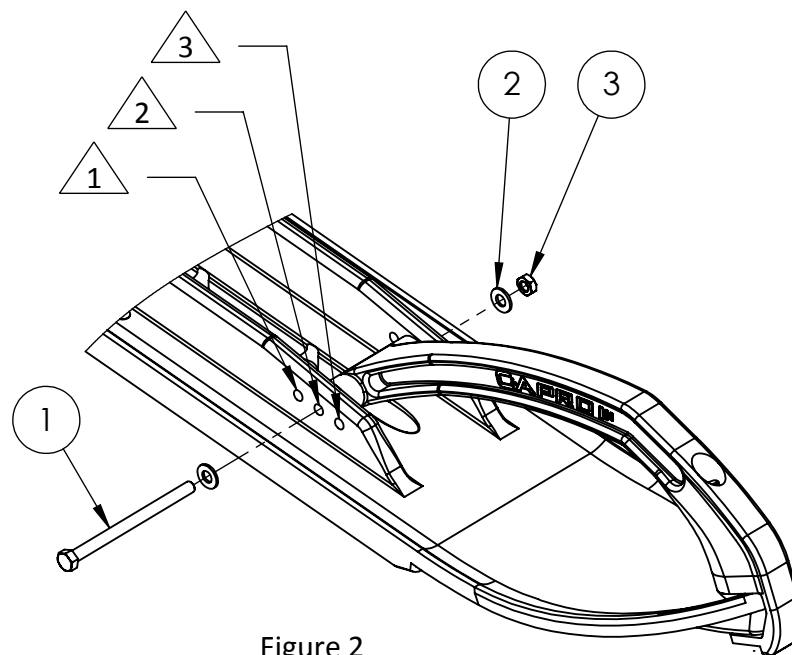

Figure 2
4. Bend tip of ski and align handle with mounting hole. Install hardware (see Figure 2).